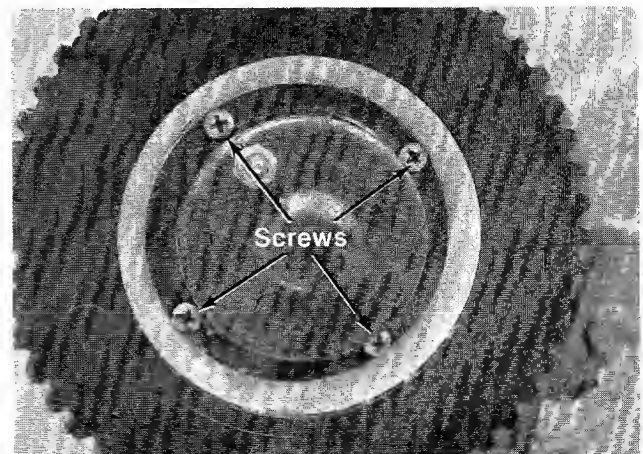

FIGURE 21.
7. Remove both rear wheel hub caps by removing the four screws on each one. See figure 21.